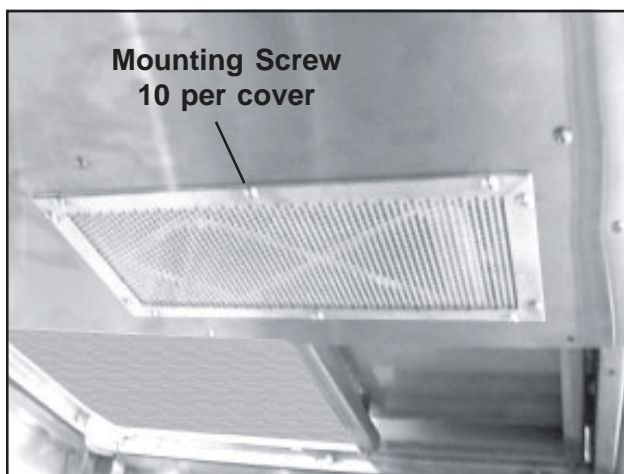

Figure 58. Typical Filter Cover (Exhaust shown)
There are two pre-filter covers in the cubicle: one for the intake blower, and one for the exhaust (Figure 58). The covers are identical and either can be used for either function. The procedure for replacing a pre-filter cover is the same for both.
1. With a Phillips screwdriver, unscrew the ten mounting screws on the cover (Figure 58) and remove it from the panel.